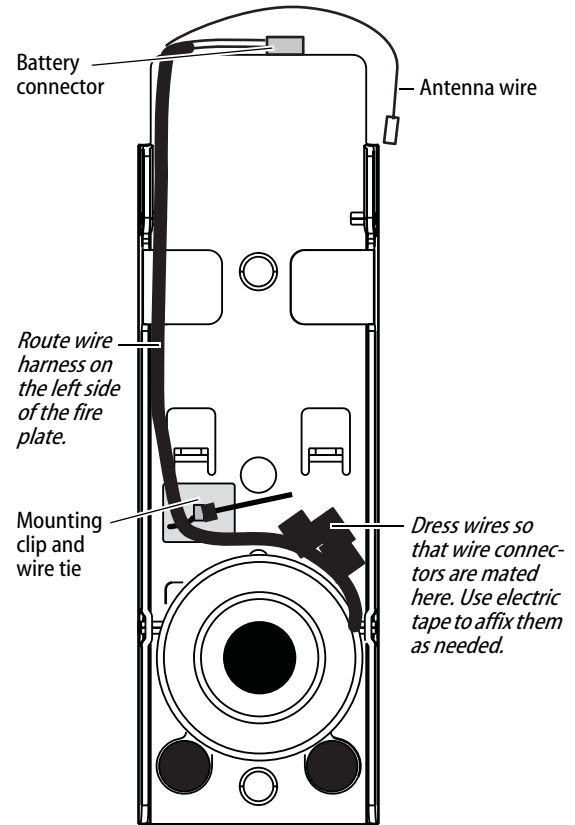

Figure 15 Routing the wires (view of the inside escutcheon)
- 2 Route the battery connector and antenna wire above the side tabs. See Figure 15 for additional detail.
- Insert the plastic wire tie through the mounting clip and secure the wires as shown in Figure 15. See Figure 15 for additional detail.